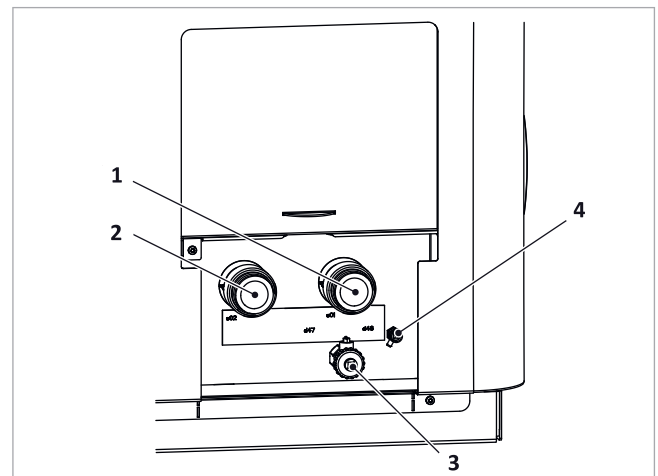
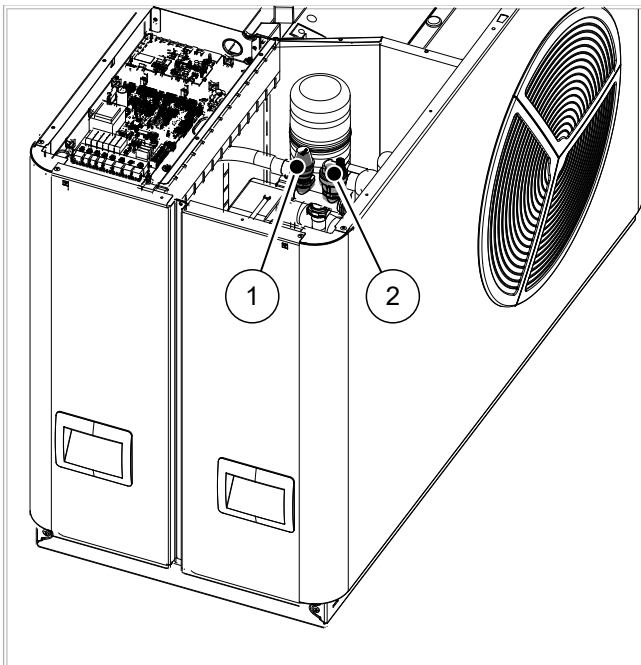

Fig. 17: SolvisLea: Hydraulic connection
Fig. 19: SolvisLea 8.3 Premium
1. Fill the plant through the drain (→ fig. 17, 3) in accordance with the storage tank installation instructions.
2. Open the automatic bleeder (→ fig. 19, 2) and remove the gases from the pipeline system on the heating pump by initiating bleeding; see → fig. 17 (4).